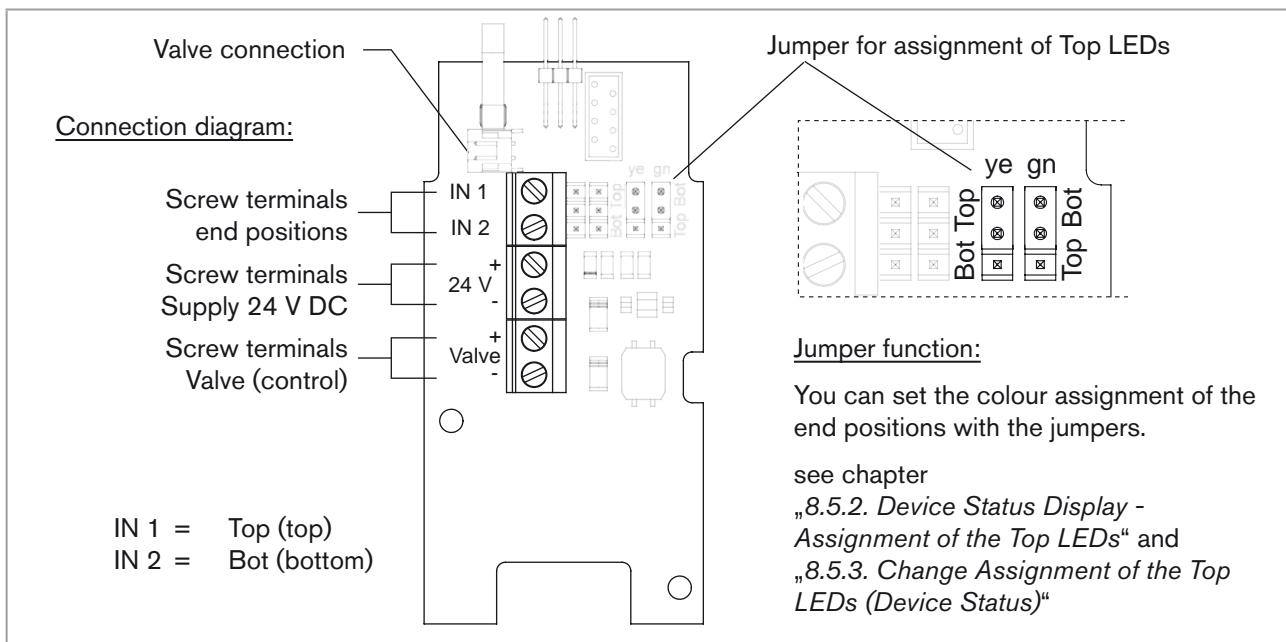

Figure 19: Printed circuit board 24 V DC - cable gland
- Connect the wires (see connection diagram in "Figure 19: Printed circuit board 24 V DC - cable gland").